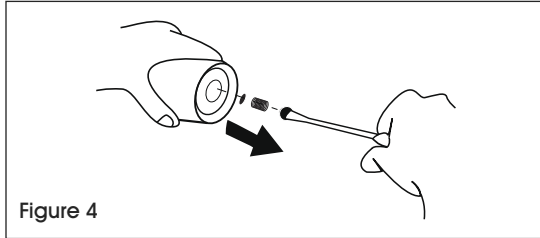

Figure 4
2. Remove filter screen/spring assembly. Clean with compressed air or replace. (See Figure 4)